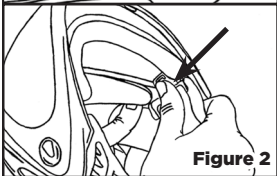

Figure 2
- 2 Once both gray retention clips are unlocked and in the forward position, push on the left and right back corners of the lens, located behind the gray retention clips. [See Figure 2]